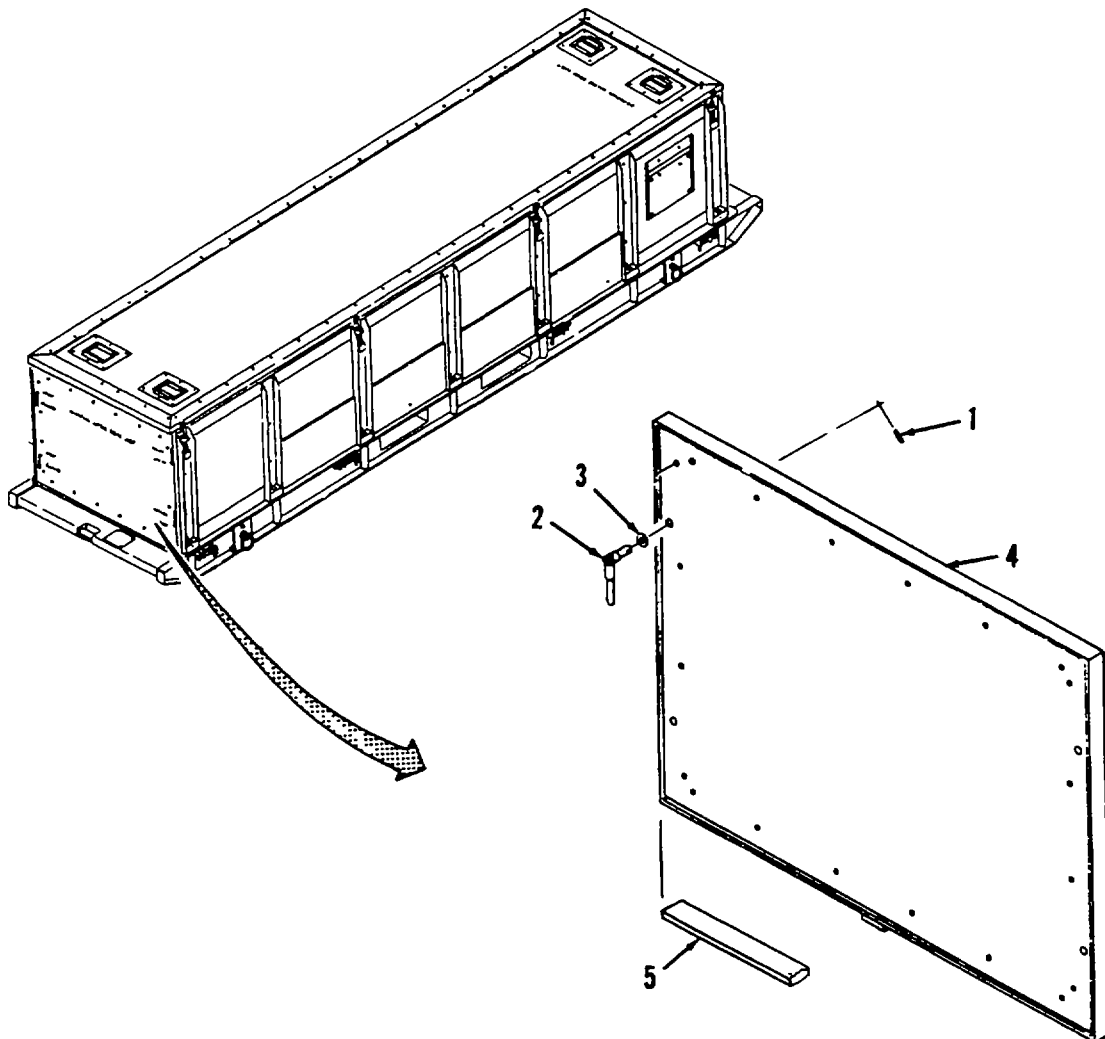

Figure 4-3. End Panel Assemblies Repair.
a. Disassembly. (Refer to Figure 4-3.)
- (1) Remove cross pin (1) from turnlock (2)
- (2) Remove turnlock (2) and washer (3) from end panel assembly (4).
- (3) Remove gasket material (5), if defective.